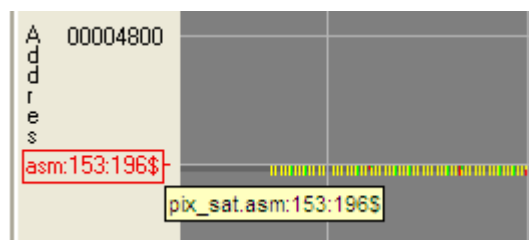

Figure 20. Viewing the Symbol
6. As the symbol name is too long to be displayed in the address area, only the last 12 characters are shown. To view the entire symbol, simply roll your mouse point on top of the symbol box and the complete symbol name will be display in the tip box, as shown in Figure 20.